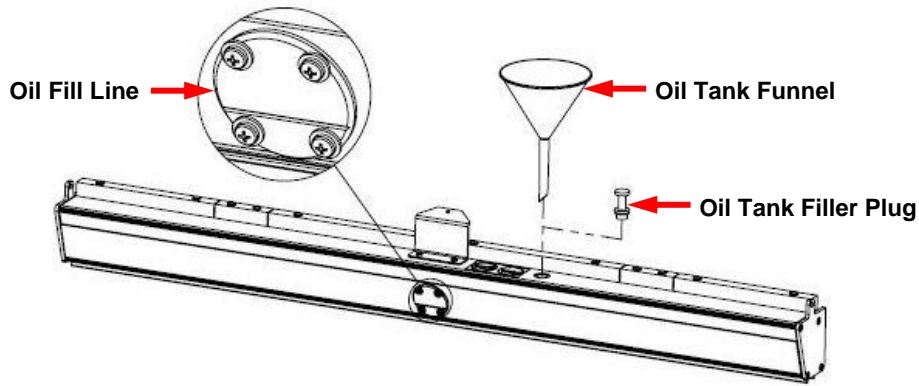

Figure 3- 44
2. Remove the plug from the top of the oil tank as shown in Figure 3- 44 on the next page.
4. SLOWLY pour lane oil into the tank until the oil level has reached the oil fill line, as shown in Figure 3- 44. **DO NOT OVERFILL!**